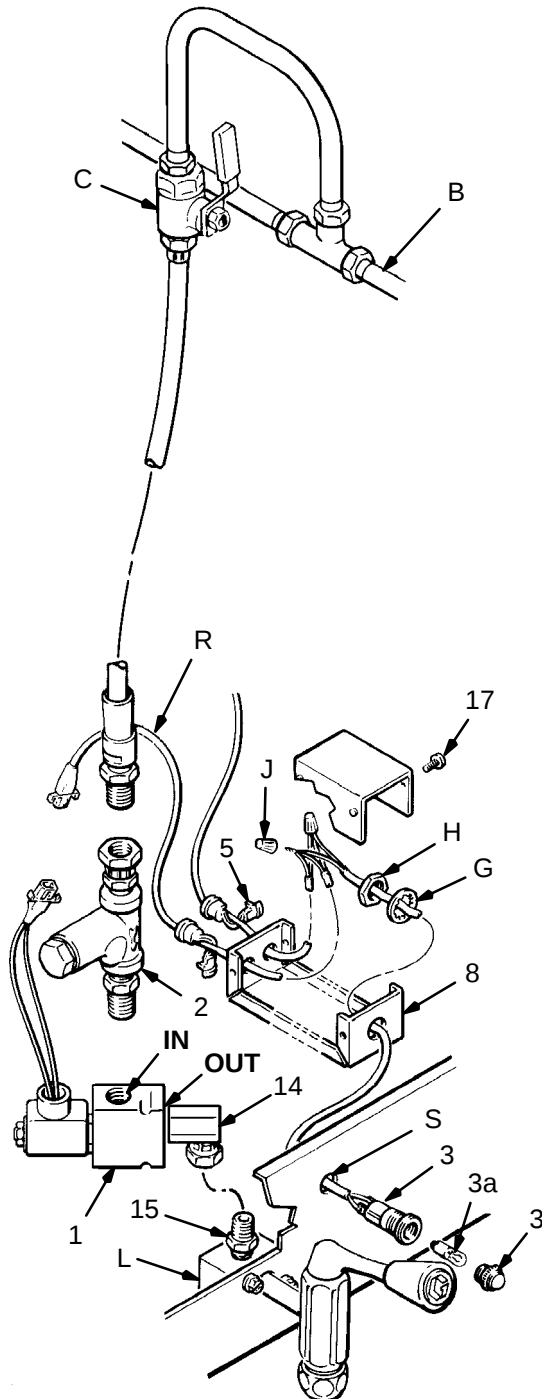

Fig. 5
1. Screw the swivel adapter out of the manifold (L), and install the nipple (15) in its place. See Fig. 5.
2. Screw the 90° swivel adapter (14) into the solenoid valve (1) outlet. Screw the 90° swivel adapter onto the nipple (15).
3. Install the line strainer (2) and an accessory shutoff valve (C). The fluid shutoff valve is needed to isolate the dispensing valve for repair or cleaning.
4. Reconnect the main supply line as shown in Fig. 5.
5. Push the plug out of the hole (S) in the oil bar. Install the ready light (3) and the light box (8) as shown in Fig. 5. Secure the light inside the box with the lockwasher (G) and nut (H).